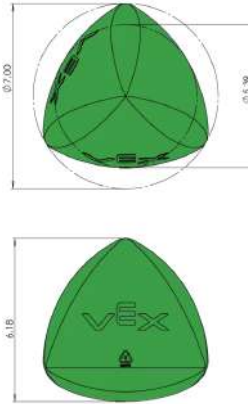

Figure 3: Dimensioned Triball
- A Triball is 6.18" in height at all times with an outer diameter of 7.00" as seen in Figure 3